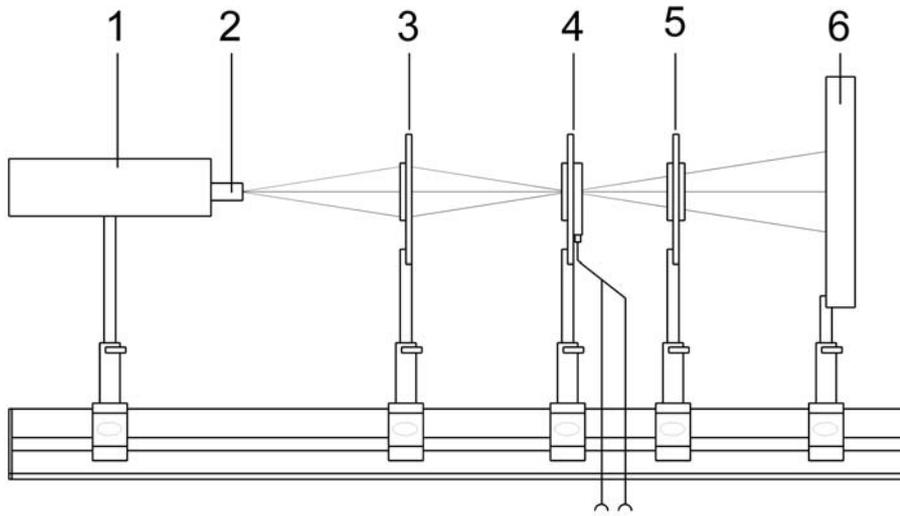

Fig. 4 Set-up for demonstrating birefringence from an  $\text{LiNbO}_3$  crystal.
- Set up the apparatus as in Fig. 4. Adjust the light beam by moving the laser and the convex lens until the beam is focussed on the crystal in the Pockels cell.